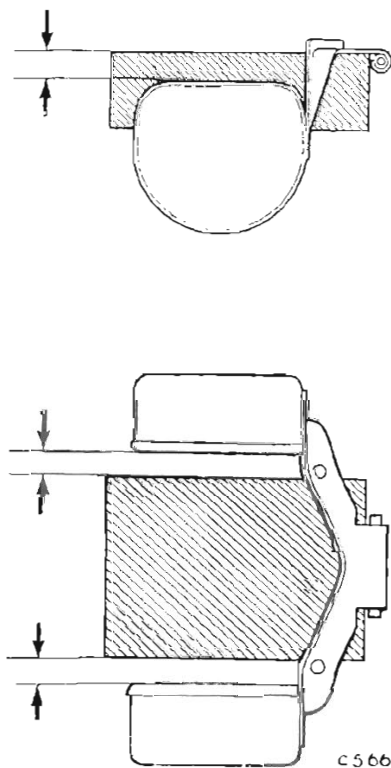

Fig. 29. Checking and adjusting float setting
7. **Float adjustment** — Using an oblong wood or metal block,  $1\frac{1}{4} \times 2 \times \frac{1}{4}$  ( $38.1 \times 50.8 \times 12.7$  mm.), place the float on the block as indicated on Fig. 29.